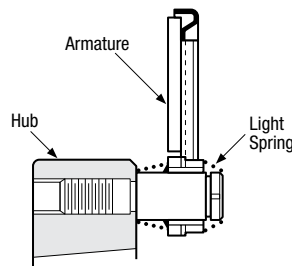

Figure 3
5. Slide the detent ring towards the hub to allow about 1/2" between the ring and head of the pin. (Figure 3)